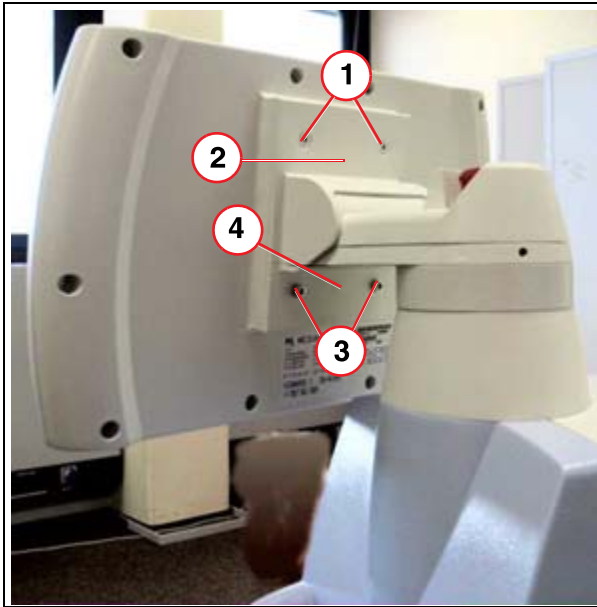

Fig. 7: control_console
2. Unscrew the 2 Allen screws (1/Fig. 7 / p. 34).
3. Remove the cover (2/Fig. 7 / p. 34).
4. Unscrew the 2 Allen screws (3/Fig. 7 / p. 34).
5. Remove the cover (4/Fig. 7 / p. 34).